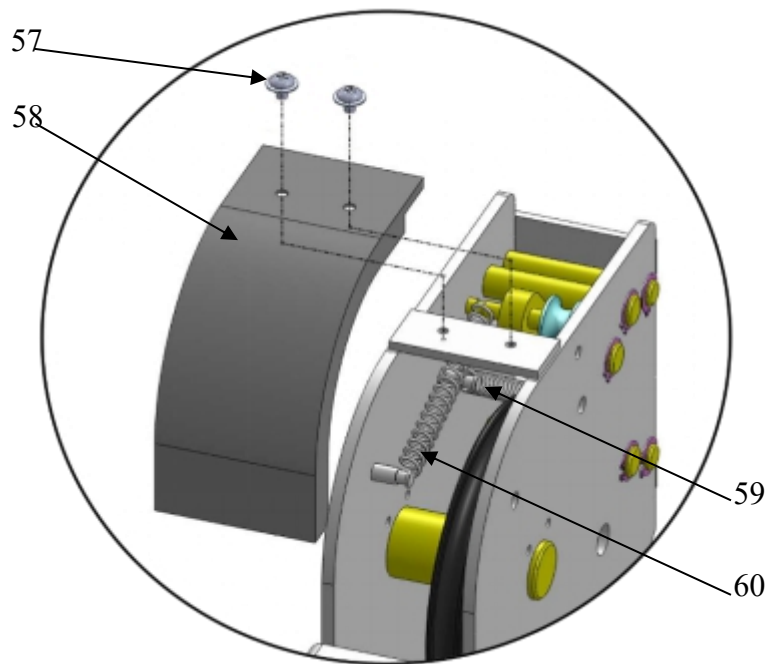

Fig. 31
M. Install spring and safety cover of cross beam (See Fig. 31).